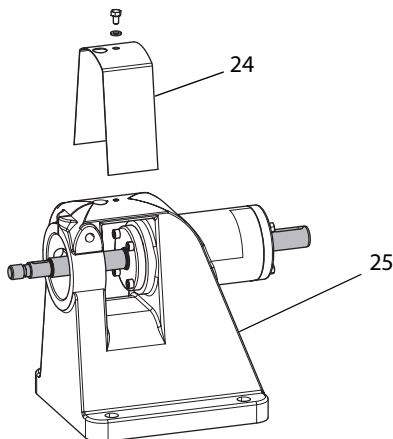

Fig. 21 Bearing block cover
6. Relubricate the cylindrical roller bearing (29). (See Table 4, "Bearing grease amounts: model KF".)
10. Mount the bearing cap (30).
11. Remount the cover (24) on the bearing block (25); see Fig. 21, "Bearing block cover," page 16.